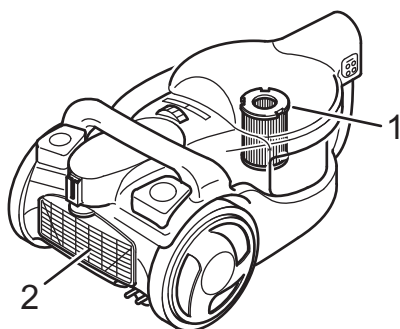

Fig.20
- Central laminar filter (Fig. 20/1)
- Blow-out filter (Fig. 20/2)